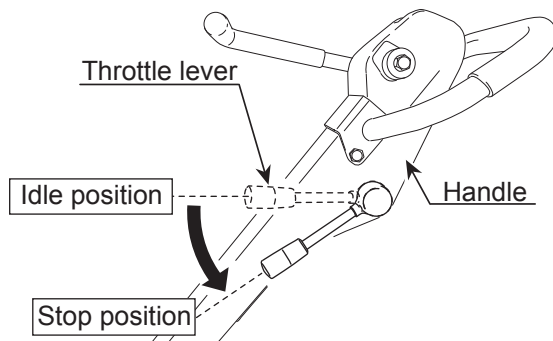

Figure 22. Throttle Lever (Stop Position)
2. Move the throttle lever (Figure 22) to the "Stop" position to stop the engine. The buzzer will sound.